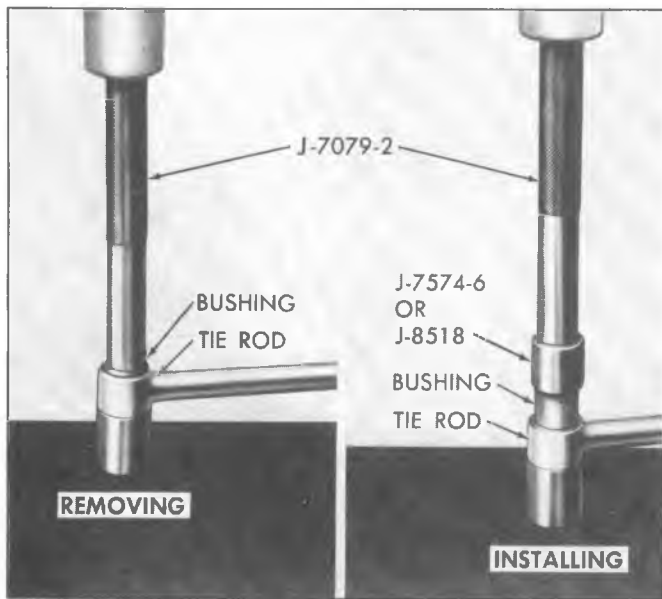

Fig. 4—Tie Rod Bushing Replacement (Series C-P10-C20)
1. Position end of rod on a suitable tube-type support as shown in Figure 4.